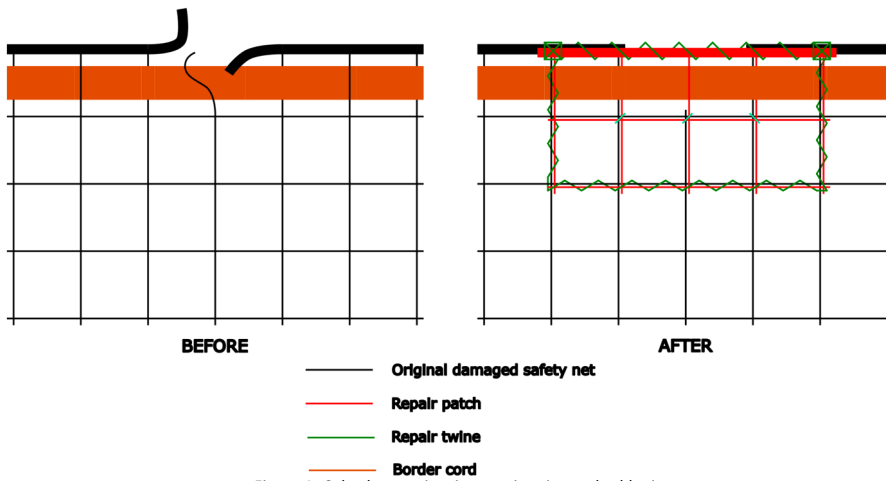

Figure 4. Selvedge repair using repair twine and cable ties.
- By lacing repair twine through the perimeter meshes of the patch and using cable ties to attach the inside (only) mesh (Figure 4).